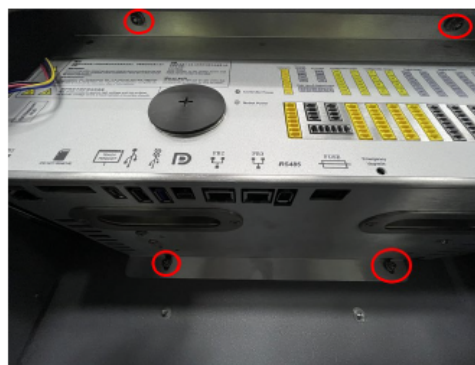

Figure 3-33 : Remove the installation module
1. As **Figure 3-33** , lay the controller flat, release the 4 anti-loosen nuts that mounted the sheet metal module. Disconnect the fan cable and teach pendant cable. Remove the sheet metal module and put it on the box bracket, please do not let the flash memory card and fuse to interfere with the box.